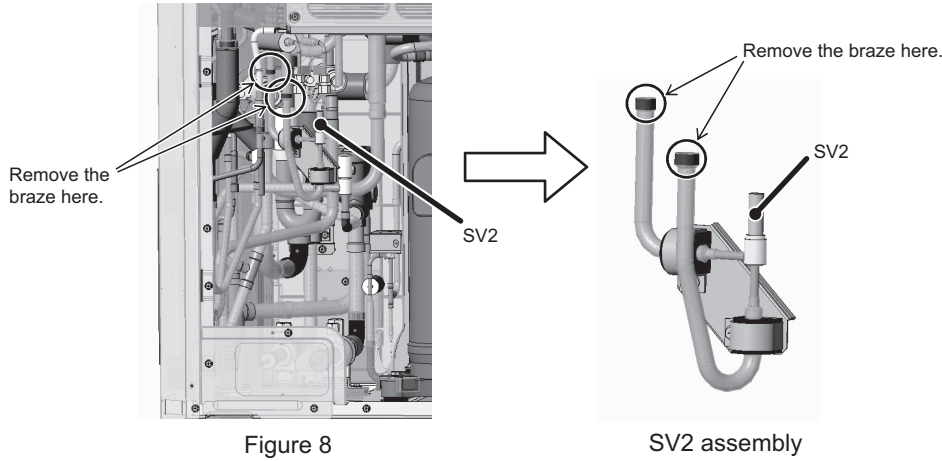

Figure 8
(8) Remove the braze at the two areas circled in Figure 8 to remove SV2 assembly. (See Figure 8.)
(9) Remove the braze at the three areas circled in Figure 8 to remove LEV2a and 2b assembly. (See Figure 8.)